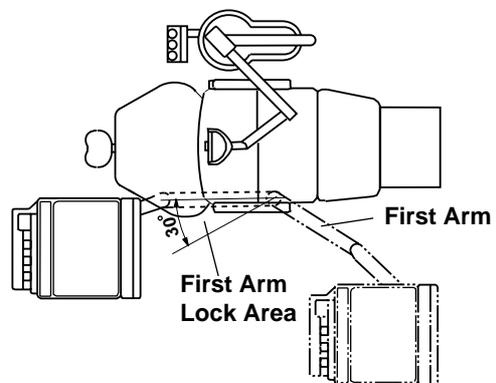

Fig.3-12 Doctor Table First Arm Lock System
(2) Doctor Table First Arm Lock Device (**Fig.3-12**)